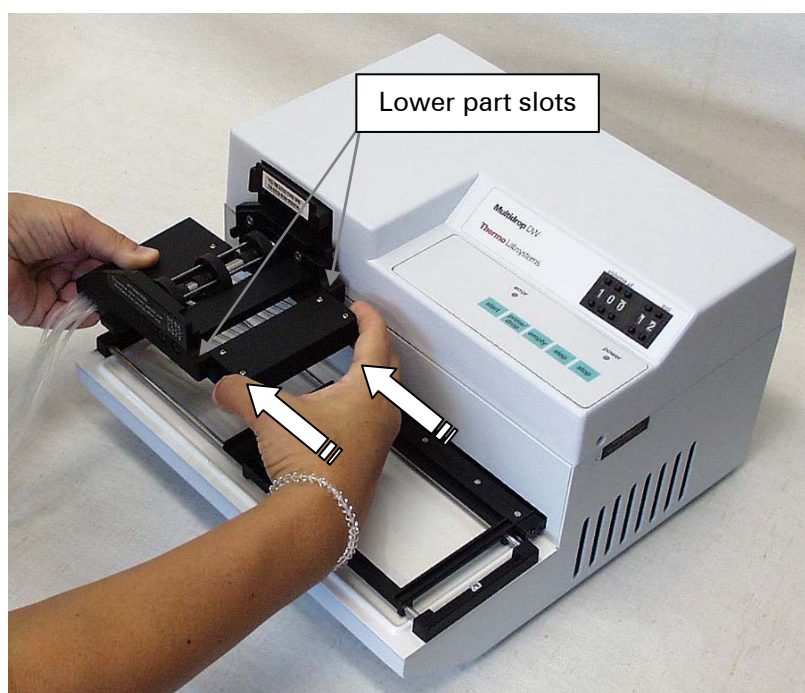
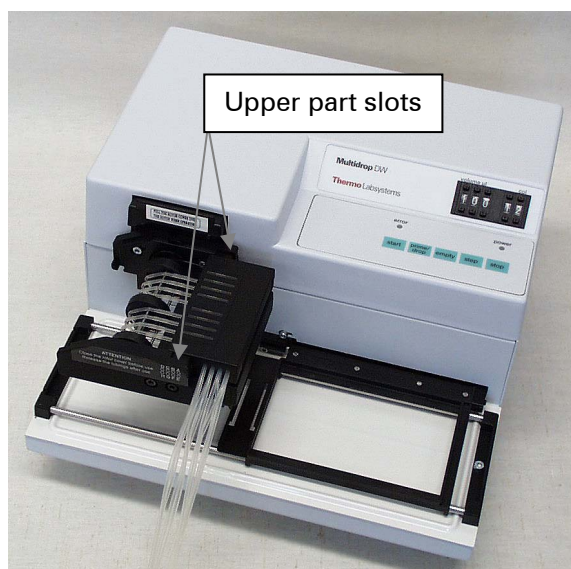

Fig. 6.2 Inserting the lower part of the dispensing cassette into its slots
Fig. 6.4 Lower and upper parts of the dispensing cassette inserted evenly into their slots
2. Carefully place the eight tubes below the pump rotor and insert the lower part of the cassette into the lower part slots of the pump body (*Fig. 6.2* and *Fig. 4.1*, item 13). Check that the tubes are freely placed below the rotor and the tension limiting wires (*Fig. 4.4*, item 3) below the rotor shaft.
4. Double-check that both the upper and the lower parts are properly placed into their corresponding slots (*Fig. 6.2* and *Fig. 6.4*).